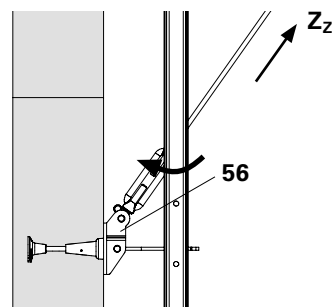

Fig. B1.34d
6. Insert Eyelet Bolt Ø 25 (60.1) into the Bracing Shoe Wall CB M24 (56) and secure with designated bolt and cotter pin. (Fig. B1.34d)